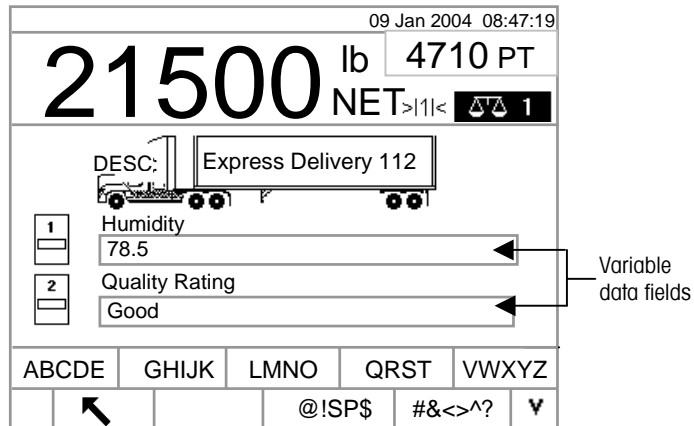

Figure 2-12: Variable Data Entry Screen
- 6. If variable data entry is enabled in setup, variable data fields display. For example, in Figure 2-12 Humidity is enabled as Variable 1 and Quality Rating as Variable 2. Use the alpha keys and the numeric keypad to enter variable data.